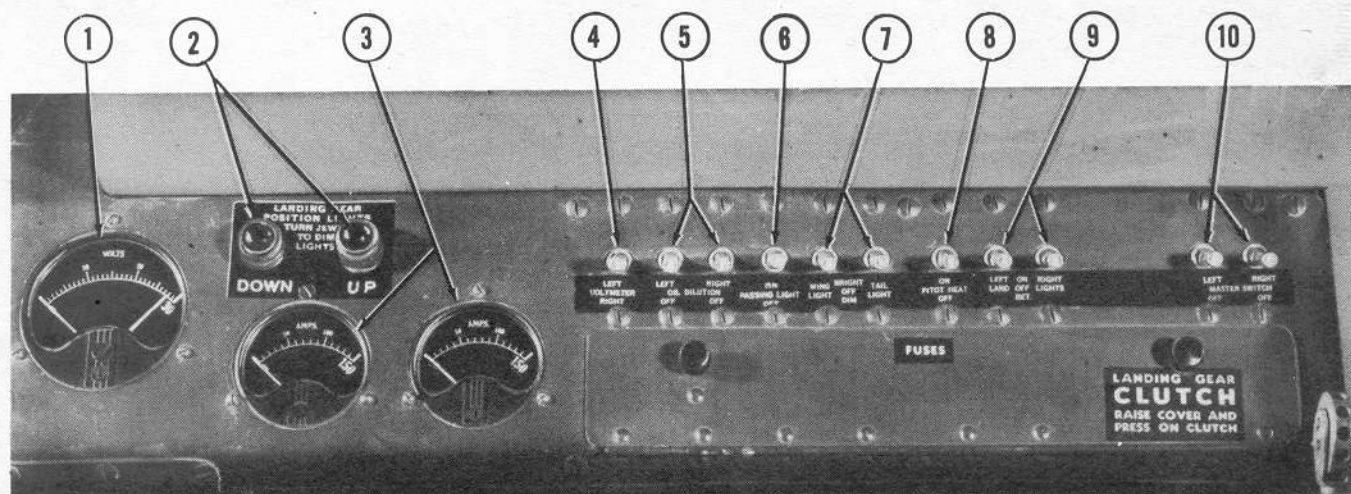
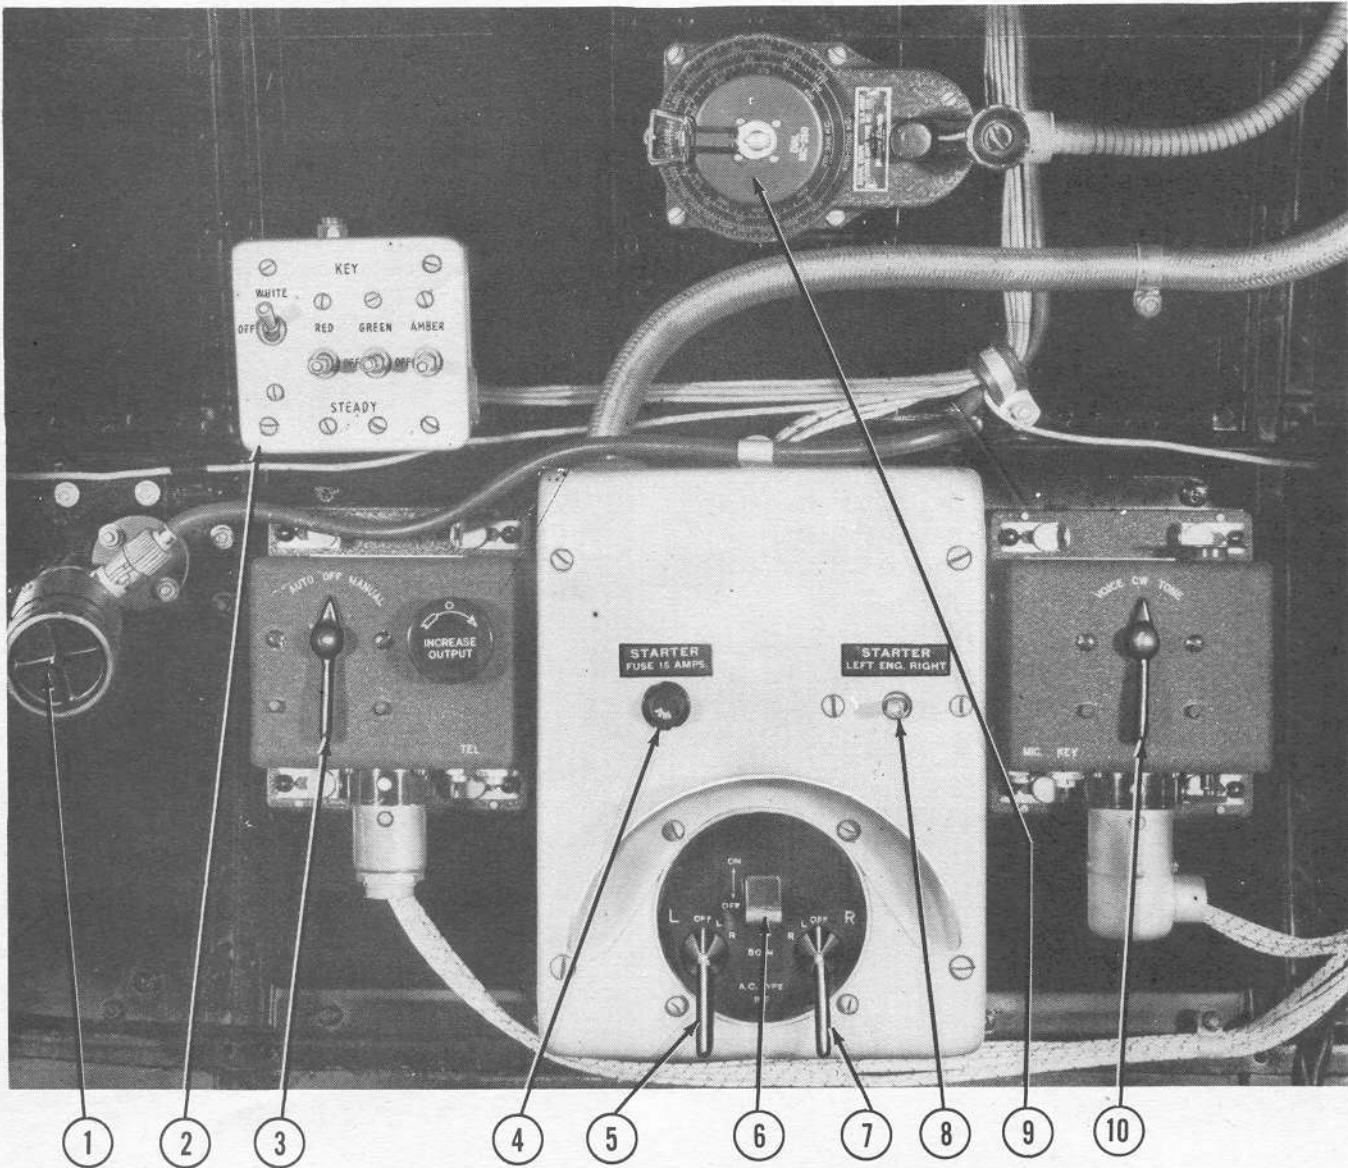

Figure 29—Pilot's Electrical Sub-Panel
Figure 32—Pilot's Overhead Controls
(3) With gear fully extended, the green warning light (figure 29) will show on electrical control panel; with gear fully retracted, the red warning light will show; in any intermediate position, no light will show. On the first AT-11 airplanes, warning lights are dimmed as navigation lights are turned on. On later AT-11's and the SNB-1's, warning lights are dimmed by turning the jewels on the lights.
b. FLUORESCENT INSTRUMENT LIGHT (figure 32) is mounted on the ceiling of pilots' compartment, directly in front of pilot. The light is equipped with an ultra-violet, light-transmitting filter and by turning the lens, either direct or ultra-violet light may be obtained for reading of luminous dials of instruments. The rheostat and switch control for the light is mounted on the bulkhead just aft of copilot. On early model AT-11 airplanes, a fluorescent light similar to the one described above, was mounted on pilots' control column.
e. OPERATIONAL LIGHTS.—The AT-11 and SNB-1 airplanes are equipped with recognition lights, passing lights (red passing light in wing and amber passing light in tail), landing lights, and navigation lights. The control box for recognition lights is mounted on ceiling of pilot's compartment. (See figure 32.) The wing passing light is controlled by separate switch and tail amber passing light is controlled by the wing position light switch. Switches (figure 29) for navigation lights, passing lights, and landing lights are located on the electrical panel. It should be noted that the tail position light and the wing position light are wired separately and may be operated separately. Do not operate recognition lights longer than 10 seconds.
The pitot heat switch (figure 29) is located on the electrical sub-panel. It should be switched to "ON" when flying under icy conditions.
a. MASTER BATTERY SWITCH.—Master battery switches (figure 29) are located on electrical sub-panel. The switches, when in "OFF" position, disconnect all battery circuits.
c. IGNITION SWITCHES. (See figure 32.)—Ignition switches are on the ignition box located on ceiling of cockpit enclosure just above windshield. The center toggle or master switch has to be "ON" before either ignition switch will operate. Ignition switches can be turned to either left or right magneto on the engine, or to both.
d. VOLTMETER SWITCH. (See figure 29.)—Turning voltmeter switch on "LEFT" or "RIGHT" gives voltage reading for left or right generator. (See figure 29.)
(3) **OIL DILUTION SWITCHES.**—Oil dilution switches (figure 29) for AT-11 and SNB-1 airplanes are located on electrical sub-panel. See section II, paragraph 19, of this Handbook for information on use of oil dilution system.